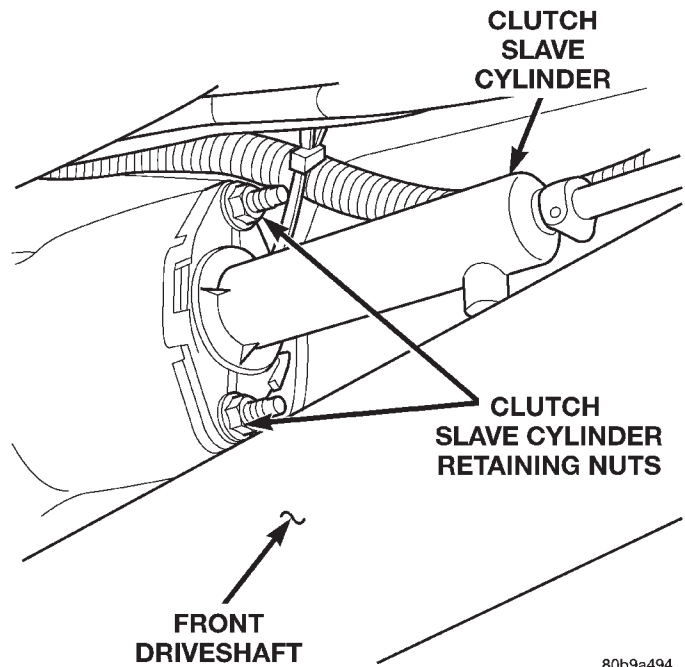

Fig. 20 Clutch Slave Cylinder
(36) Remove the clutch slave cylinder from the clutch housing (Fig. 20).